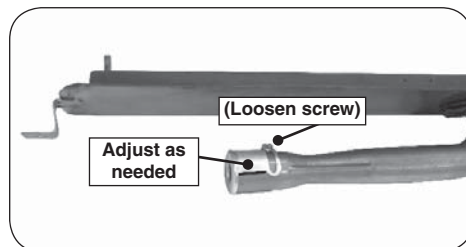

Fig. 52-3 Adjust air shutter
6. Use a $\frac{1}{4}$ " nut driver to loosen the air shutter screw, and adjust as needed. Be certain to re-tighten the screw when done. See Fig. 52-3.